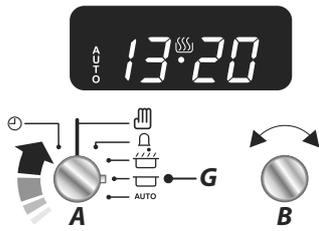

Fig. 2.6
2. Turn the **Adjusting (B)** knob to the amount of cooking time required. The display will show the current time plus the additional cooking time you have set (**Fig. 2.6**).